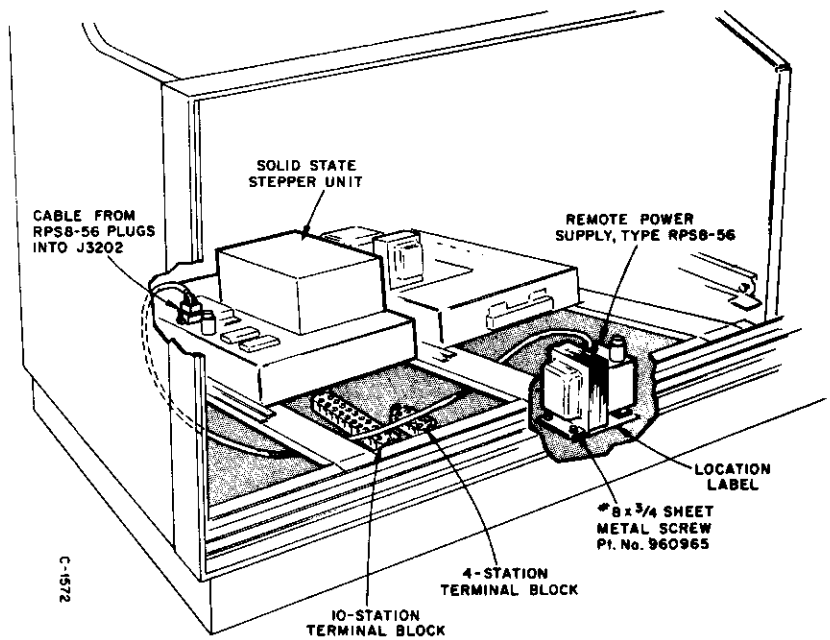

Figure 1. Power Supply Installation.
1. Install the power supply at the location labeled in the phonograph cabinet using the three mounting screws provided (see Figure 1).